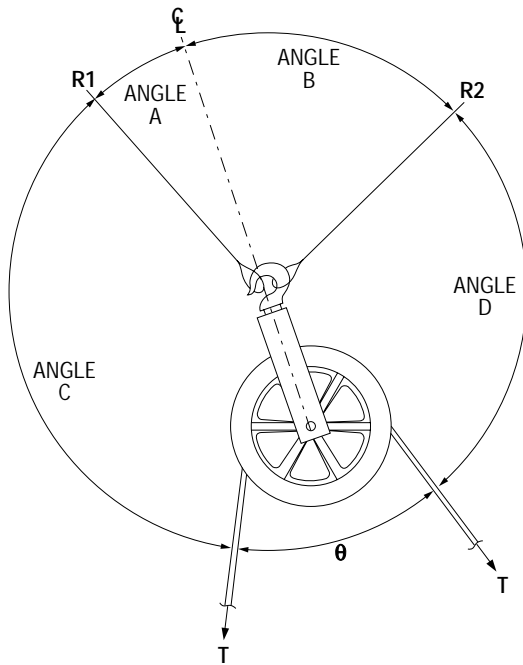

Figure 2 - Single Hook Sheave with two attachment points
CALCULATING THE LOAD ON SINGLE HOOK SHEAVES with two attachment points (Figure 2)
- Determine the angles “A” and “B” (Figure 2) by extending an imaginary line beyond the yoke as illustrated
- Determine the angles “A” and “B” (Figure 2) by measuring angles “C” and “D” and using Formula #2 below.
Measure angles “C” and “D” (see Figure 2)